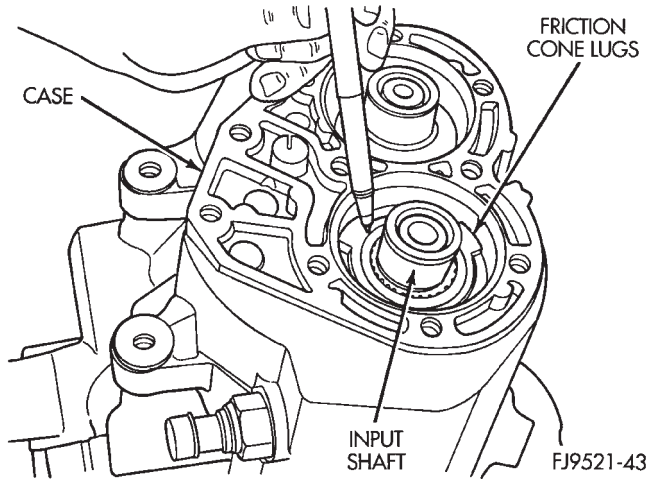

Fig. 75 Friction Cone Lugs
(10) Line up reverse brake friction cone lugs to the slots in the gear case (Fig. 75). Verify reverse brake shim is in position.